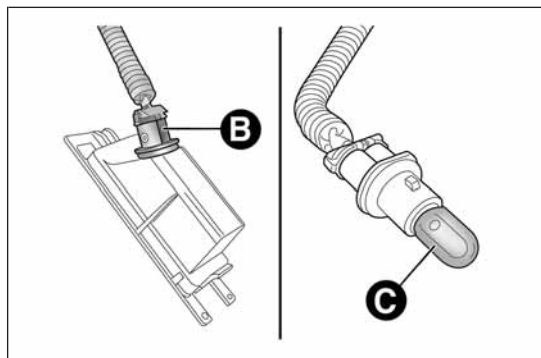

fig. 142
- ☐ turn the bulb holder B fig. 142 anticlockwise, extract the bulb C and replace it;